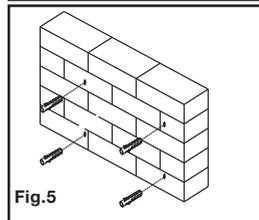

Fig.5
- Remove the template from the wall and insert a concrete anchor (C) into each hole so that it is flush with the concrete surface (see Fig. 5). A hammer can be used to lightly tap the anchors into place if necessary.